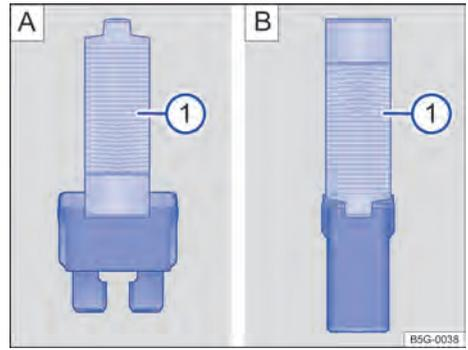

Fig. 184 Removing or installing the fuse with the plastic claw: [A]: flat fuse, [B] blocking fuse.
- If applicable, take the plastic tweezers → Fig. 184 ① out of the fuse box cover.
- According to the fuse type, apply the proper claw of the plastic tweezers → Fig. 184 A ① or → Fig. 184 B ① to the fuse sides.
- If the fuse has blown, replace it with a new fuse of the *same* amp rating (same colour and same imprint) and *same* size → ①.